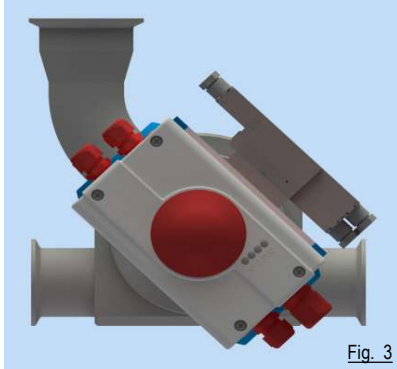

Fig. 3
- Build in position acc. to Figure 3